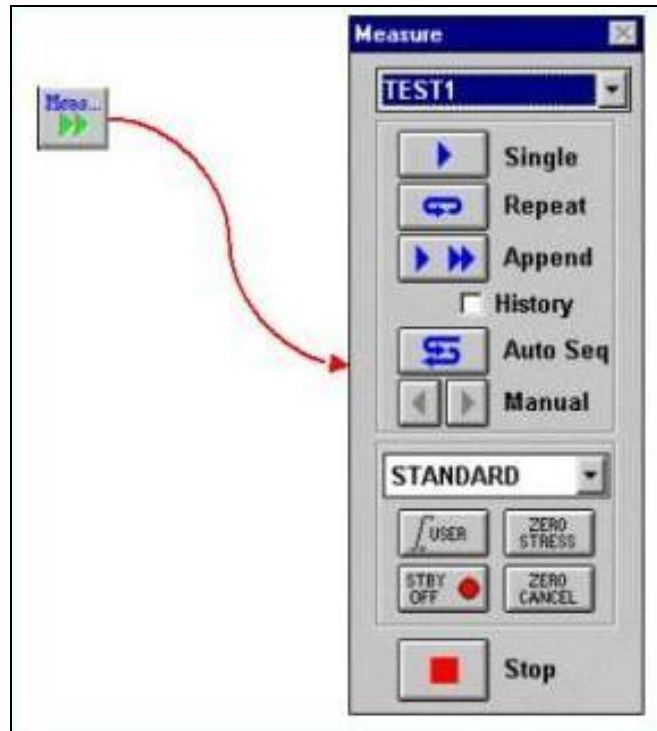

Figure 8
9.3.2.7 To test a measurement or make a spot measurement, position the probe card at the appropriate device and open the Measurement Remote Control (Figure 8).